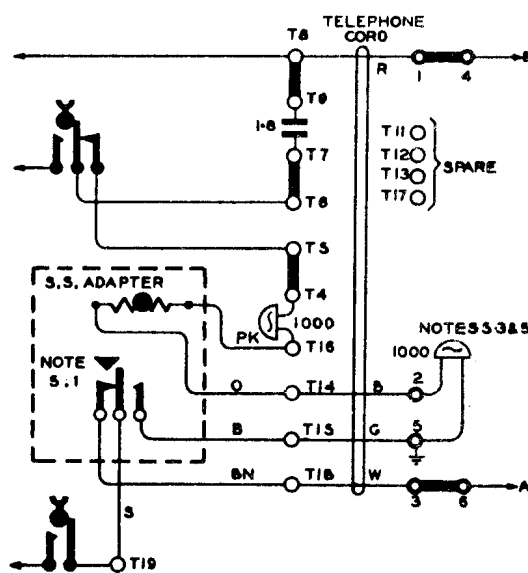

FIG 7
5.3 Extension Bell. Replace the 3-wire cord HC 543.... with a 4-wire cord KC 729.... and connect as shown in Fig. 7.